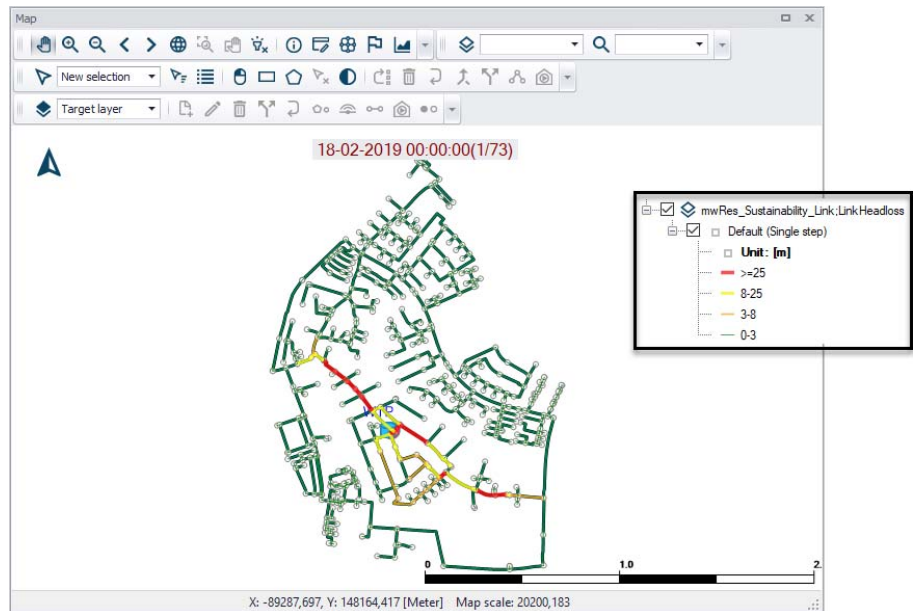

Figure 20.110 Example Sustainability Analysis Unit Head Loss results on the Map
Results from running the tool are added to the Map (Figure 20.110).
- Unit head loss: Link head loss per 1000 (see Figure 20.110)